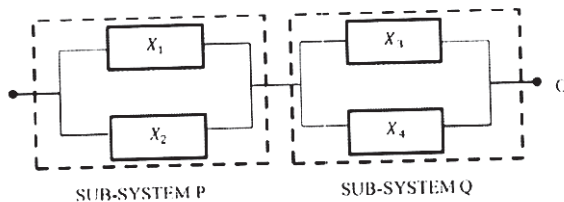

Fig 2
- c)** In the block diagram shown in fig 2. Let I and O be the input and output terminals. There are two sub-systems P and Q that are connected in series, The system fails when either of these two sub-systems fails. Draw the fault Tree diagram. [8]